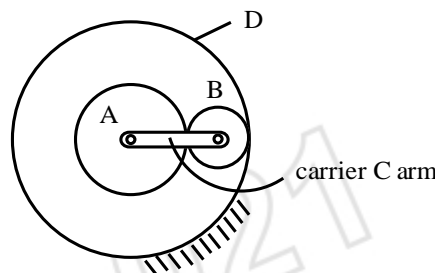

Fig. 8 (b)
- b) An epicyclic train of gears is arranged as shown in fig. 8. (b). How many revolutions does the arm, to which the pinions B is attached, make: 10